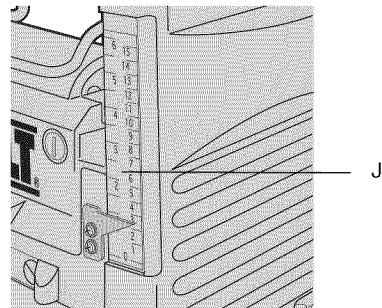

FIG. 10
1. Slide approximately $3"$ (76.2 mm) of your material under the arrow (K) located in the middle of the carriage (Fig. 10).
3. Unlock and crank the carriage down on the material until the material removal bar engages the wood. The red indicator (L) moves up the scale indicating the amount of material to be removed with the carriage at that height.